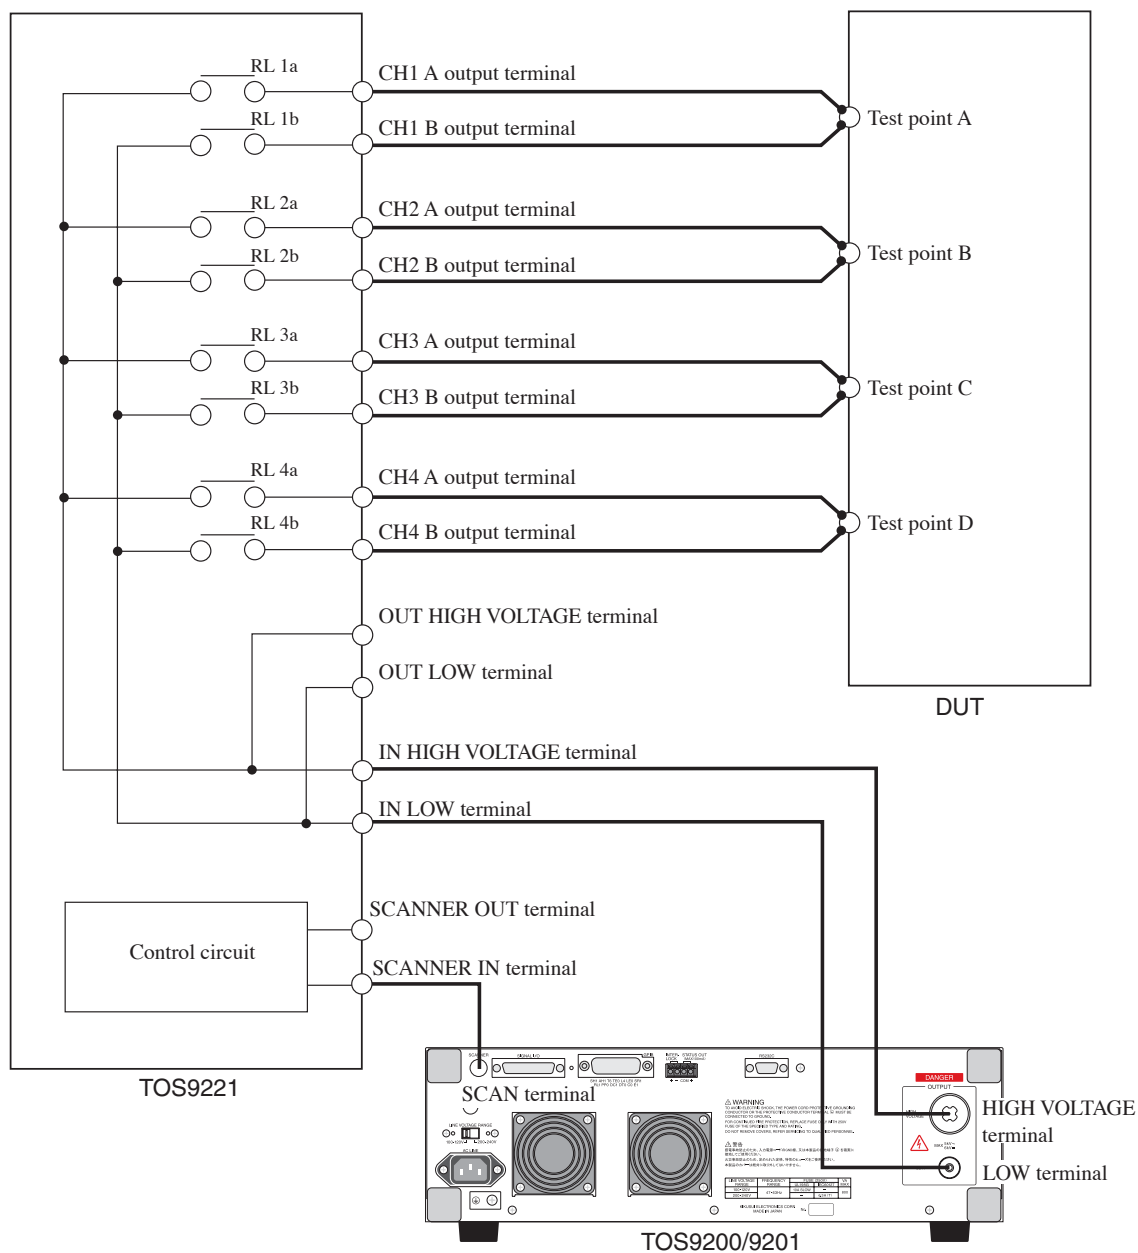

Fig.3-7 Test System Using the TOS9221 Scanner
The state of the connections of all four channel outputs of the TOS9221 scanner to the test points of the DUT is shown in Fig. 3-7.
In Fig. 3-7, the TOS9200/9201 tester can set each channel to a potential of HIGH, LOW, or OPEN, and can conduct an AC/DC withstanding voltage test or insulation resistance test on any of four test points A to D.
Pressing the START switch of the TOS9200/9201 tester with the contact check function set to ON enables the contact check to be conducted before a test is started. The tester proper turns on both output relays “a” and “b” of the scanner for every set channel, applies a voltage of approx. 2 V DC, and measures the current to check continuity between the test leadwires and the DUT. See Fig. 3-7.
- ⚠ WARNING** • As shown in Fig. 3-7, the test leadwire of a B-output terminal is connected to the test leadwire of an A-output terminal at the corresponding test point. During a test, high voltage is applied to a point prior to the relay of a B-output terminal. The B-output terminals are output terminals connected to the low-voltage side, but they should be handled in the same way as the A-output terminals, which are connected to the high-voltage side.
If the contact check function is not used, it is not necessary to connect the test leadwires to both the A and B output terminals as shown in Fig. 3-7.